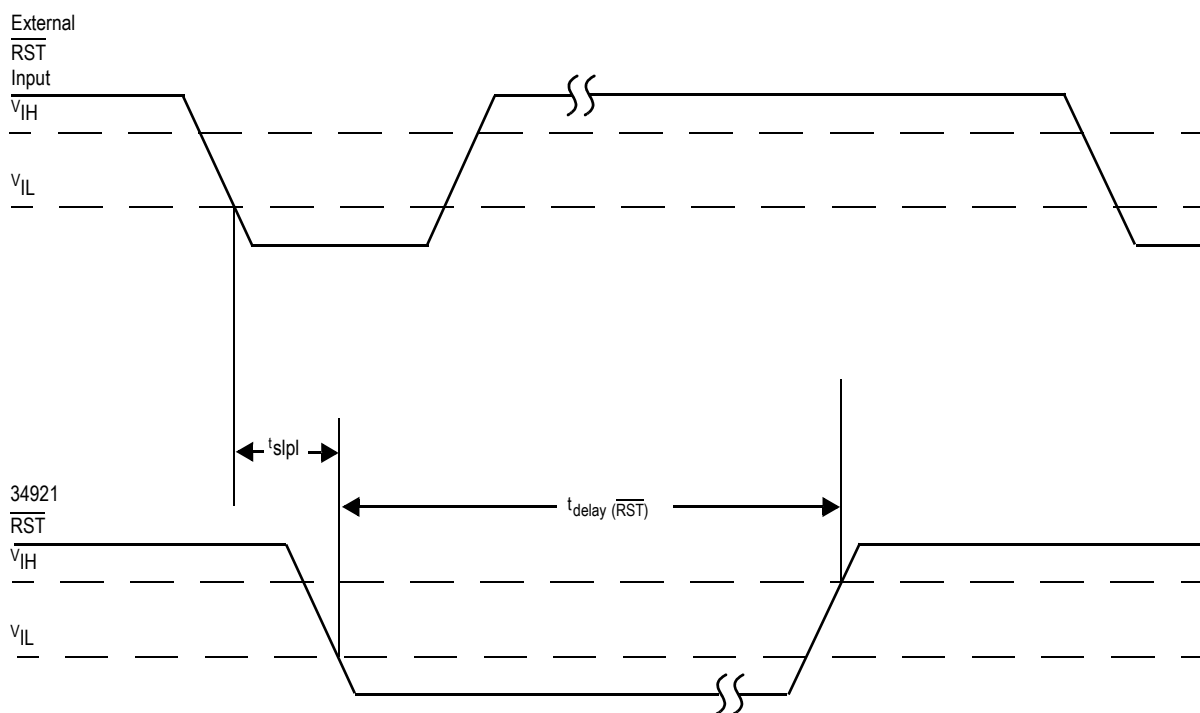

Figure 6. $\overline{\text{RST}}$ Timing
25. See Figure 6, RST Timing, page 17.